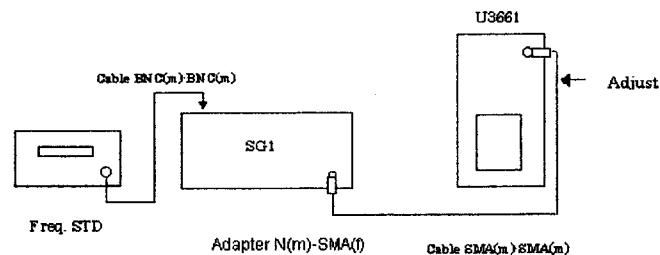

Figure 4-1 Setup of Frequency Reference Adjustment
1. Connect the equipment as shown in Figure 4-1.